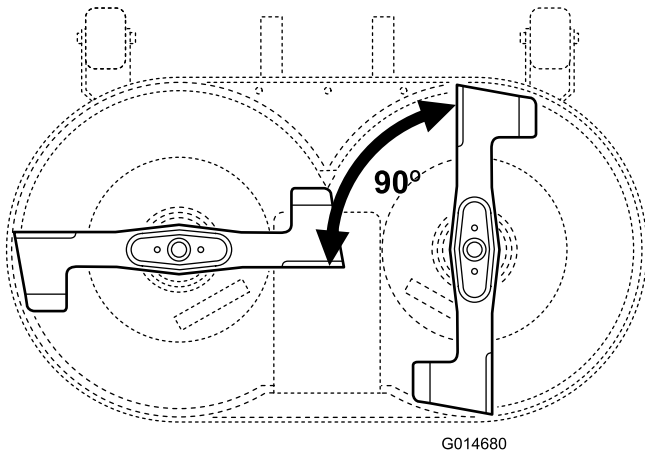

Figure 41
- Position the blades 90 degrees to each other (Figure 41).